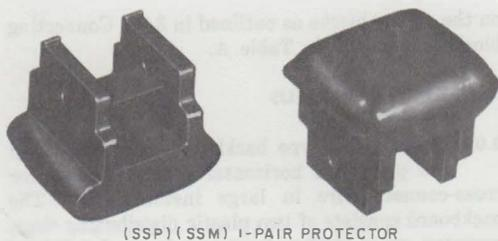

Fig. 5—AT-8660 F Clip Terminal Insulator
2.08 The AT-8660 F clip terminal insulator (Fig. 5) is used to mark special service circuits requiring Special Service Protection or Special Safeguarding Measures. The F clip terminal insulator mechanically protects one pair and may be located in adjacent pair positions without interference to protect any number of pairs.